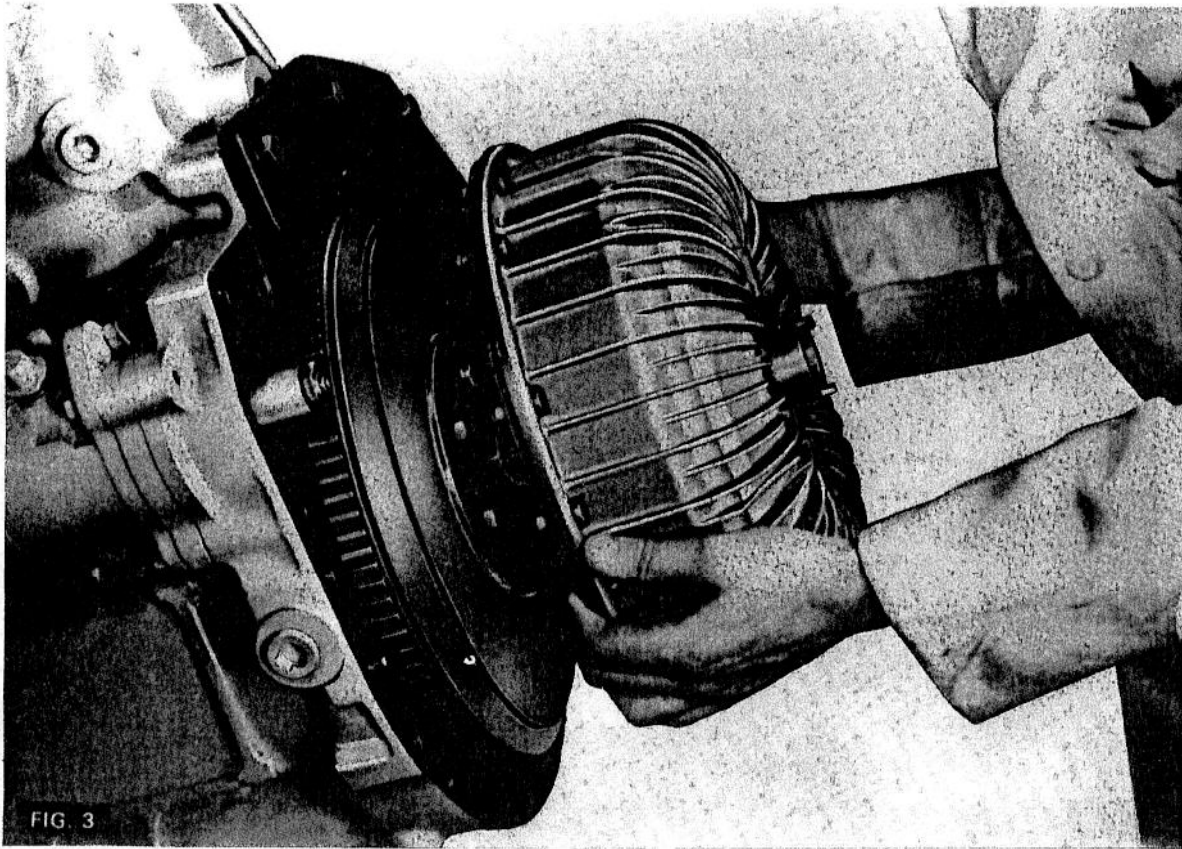

FIG. 3
5. (Fig. 3) Lift the torque converter clear from the flywheel, maintaining a vertical position in order to prevent oil spillage through the hub.